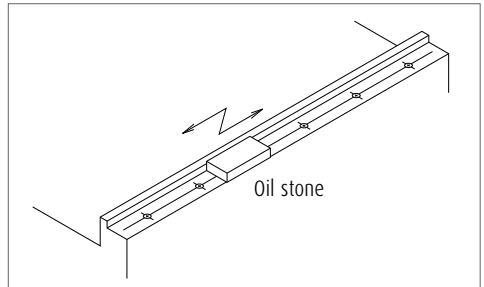

Fig. 12
(3) Installation procedures
- › For both methods, wipe off the rust preventive oil applied to the linear guide. Remove burrs and small bumps on the machine base and table mounting surface with an oilstone (**Fig. 12**).